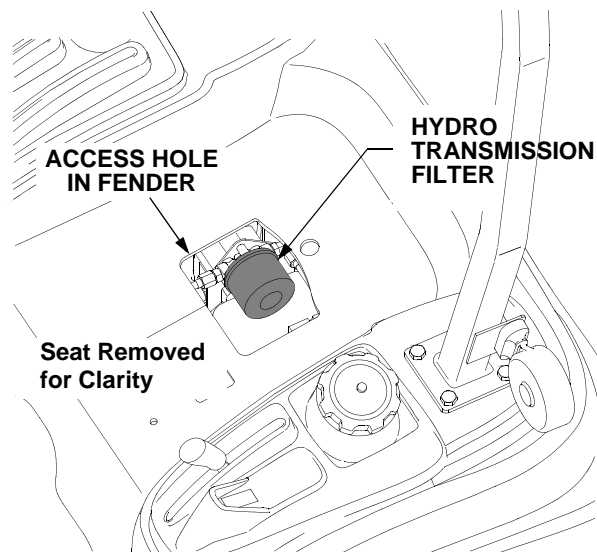

Figure 42
- Through the access hole in the rear fender, clean the area around the hydro transmission oil filter to prevent debris from entering the hydraulic system. Refer to Figure 42.
- Stuff shop rags underneath the hydro transmission filter to absorb any lost oil when the filter is removed. Refer to Figure 42.